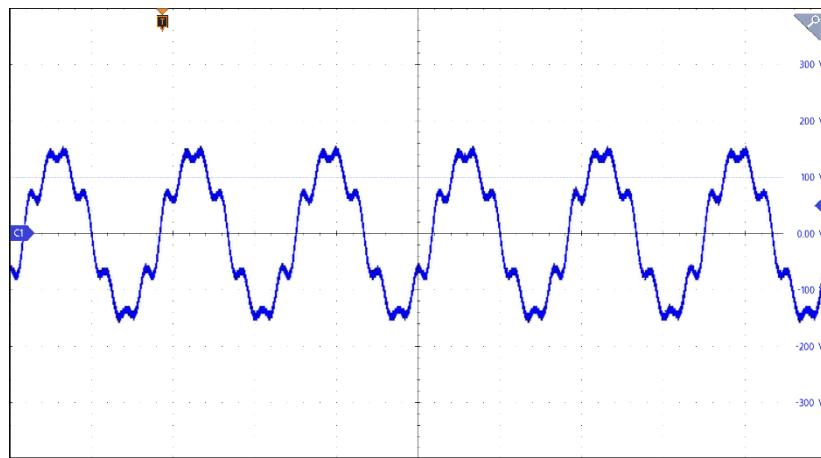

Figure 5-28 Synthesis Mode Setting Page (Example Output Waveform for Phase 1)
3. After setting the parameters, tap the Home key **Home**, then tap **TRIG. ON** to trigger the output. The output waveform is shown in Figure 5-28.